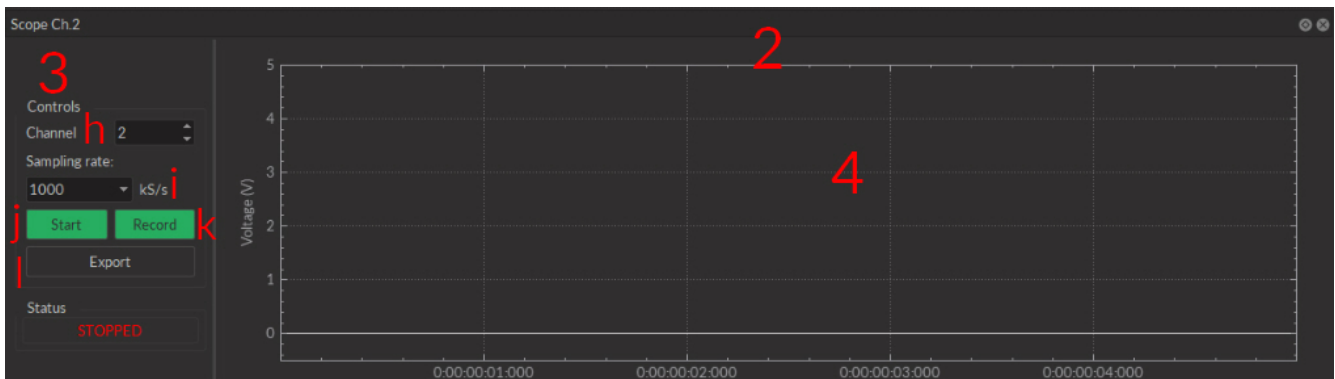

Figure 4.15: Experiment View, Scope Channel
2. The **Scope Channel** box (Fig. 4.15) is used to control and configure an active **Scope**.